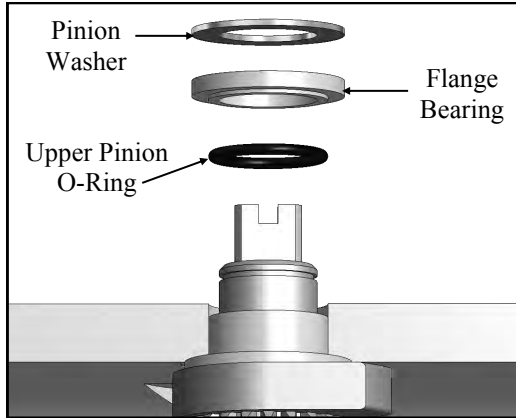
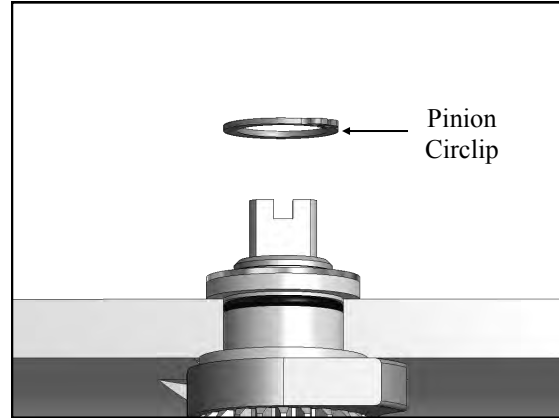

Fig. 9.6
Fig. 9.7
5. Press the top pinion O-Ring into the inset around the top of the pinion then install the flange bearing and top pinion washer (Fig. 9.6). Use a pair of circlip pliers to install the pinion circlip (Fig. 9.7) Be careful not to expand the circlip too much as it may be damaged if over expanded.